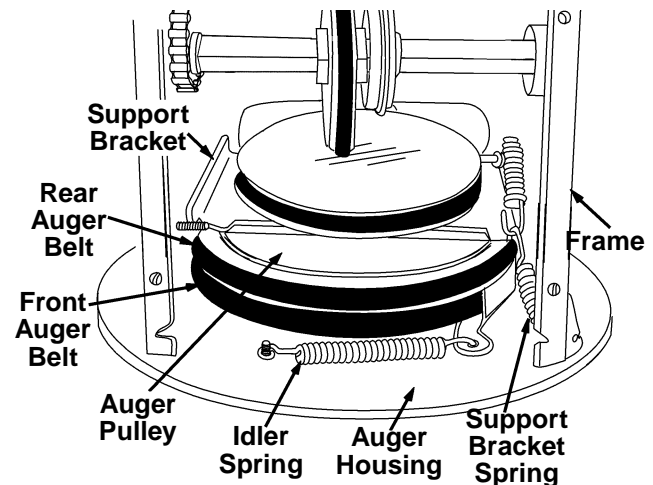

Figure 17
- Unhook the idler spring from the hex bolt on the auger housing. See Figure 17.
- Lift the rear auger belt from the auger pulley, and slip the belt between the support bracket and the auger pulley. See Figure 17. Repeat this step for the front auger belt.
- Pull the idler pulley up, and lift the belt off the wheel drive pulley and friction wheel disc. See Figure 17.